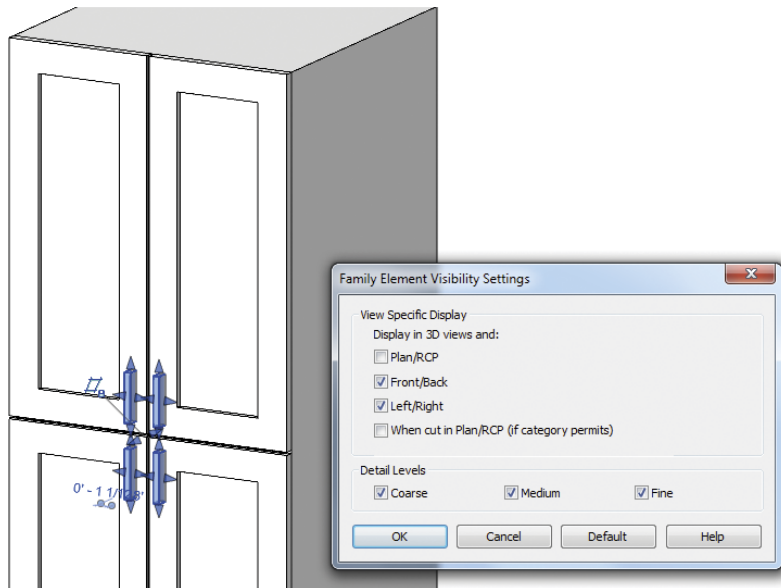

FIGURE 6.7 Editing levels of detail for hardware
2. From the 3D view select the hardware (cabinet face handles) on the front of the cabinet. Click the Visibility Settings button on the Modify tab of the ribbon to open the Family Element Visibility Settings dialog box (Figure 6.7).